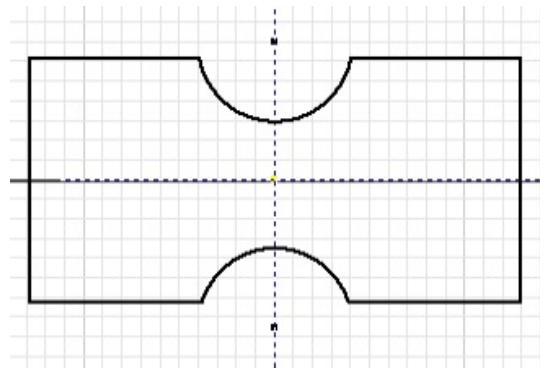

Figure 14-29 Sketch after adding the constraints
- Create the sketch and add required constraints to it, refer to Figure 14-29.
1. Draw the sketch for the model by using the sketching tools. Add the required constraints to it. The sketch after adding the constraints is shown in Figure 14-29.